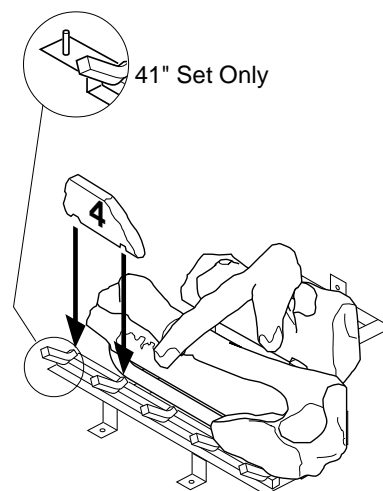

Figure 49 - Installing Log No. 4
4. Place log #4 (small log) onto the front left part of the grate making sure the notches fit over the prong of the grate (and hole over pin on 41" set). See Figure 49.